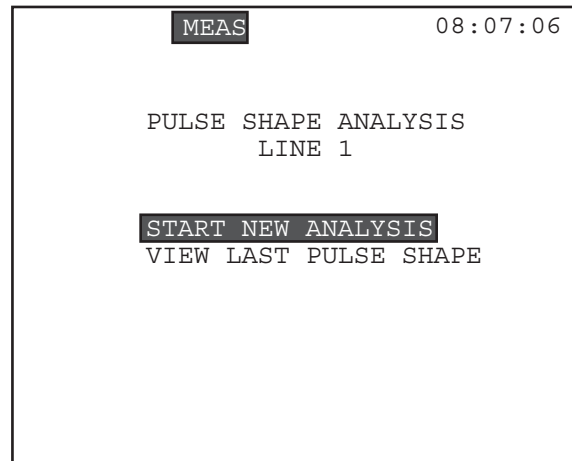

Figure 43 Pulse Shape Analysis Menu
- The Pulse Mask Analysis menu is shown in Figure 43.